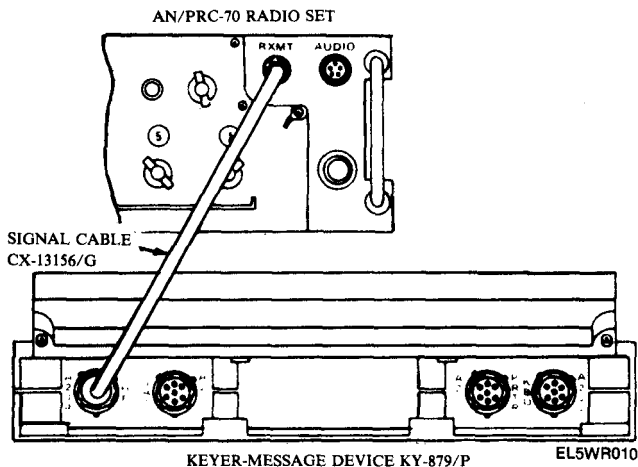

Figure 4-3. Digital Message Device Group (DMDG), OA-8990/P configuration
a. *Equipment Setup.* The radio set can be operated with a DMDG unit from fixed or portable locations. Figure 4-3 shows this configuration which includes the following items: